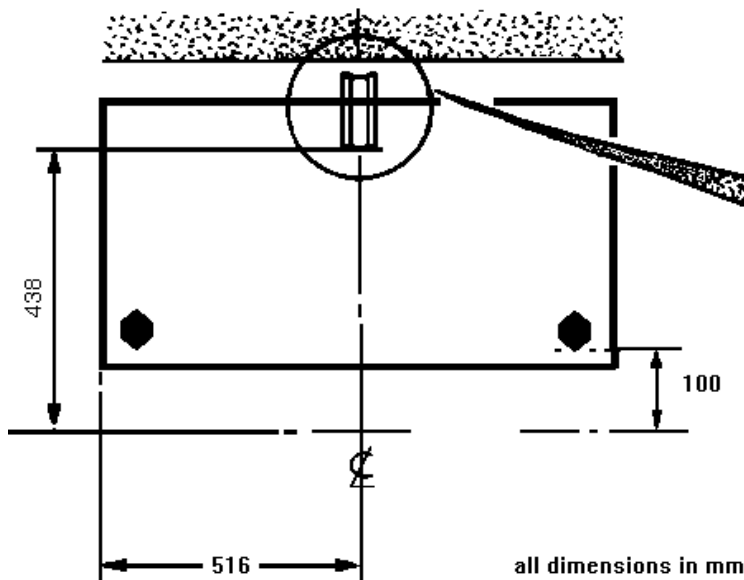
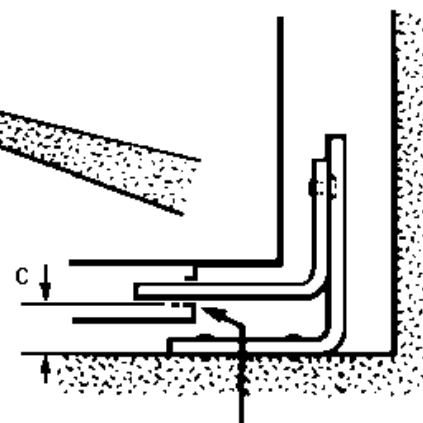

Fig.4a
Fig.4b
2. Mark off 516 mm from the left hand side of the appliance as shown in Fig 4a. This is the centre line of the fixing bracket.
3. Draw a line 100mm from the front edge of the levelling feet (see Fig.4a) and remove appliance from its position. Mark off 438mm (see Fig.4a) back from this line on the centre line of the bracket to locate the front edge of the lower bracket. Fix lower bracket (with two fixing holes) to the floor then measure the height from floor level to engagement edge on back of appliance, dimension 'C' of Fig.4b.
- Reposition appliance and check that top bracket engages into appliance back as shown in Fig. 4b.